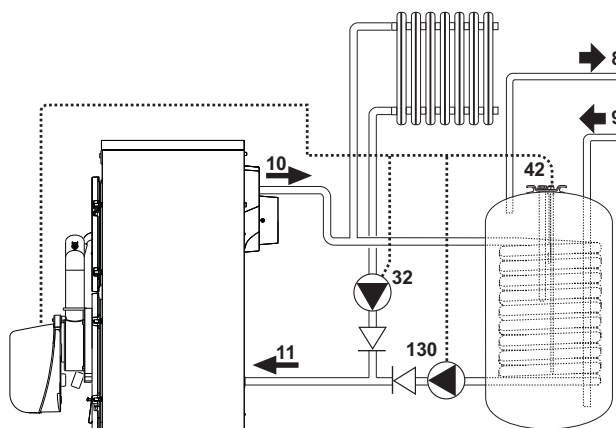
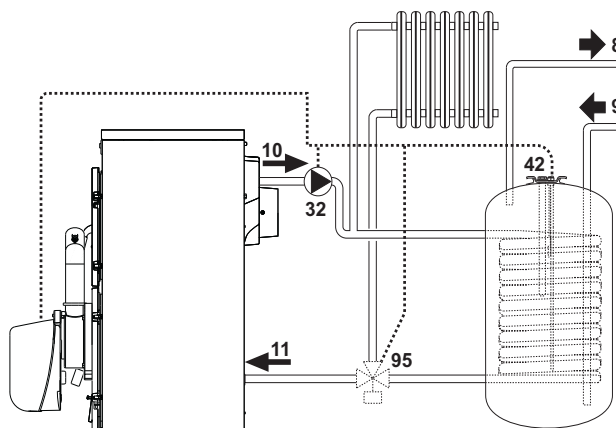

fig. 14- Diagram of connection with circulating pump
fig. 15- Diagram of connection with diverter valve
The unit's electronic card is arranged for managing an external DHW storage tank. Carry out the plumbing connections according to the diagram fig. 14 (pumps and non-return valves must be supplied separately). Carry out the electrical connections as shown in the wiring diagram (see fig. 23). A FERROLI probe must be used. At the next lighting, the boiler control system detects the hot water tank probe and automatically configures the DHW function, activating the display and relevant controls.
The unit's electronic card is arranged for managing an external DHW storage tank. Carry out the plumbing connections according to the diagram fig. 15 (the 3-way valve must be supplied separately). Carry out the electrical connections as shown in the wiring diagram (see fig. 23). A FERROLI probe must be used.
- Legend fig. 14 and fig. 15